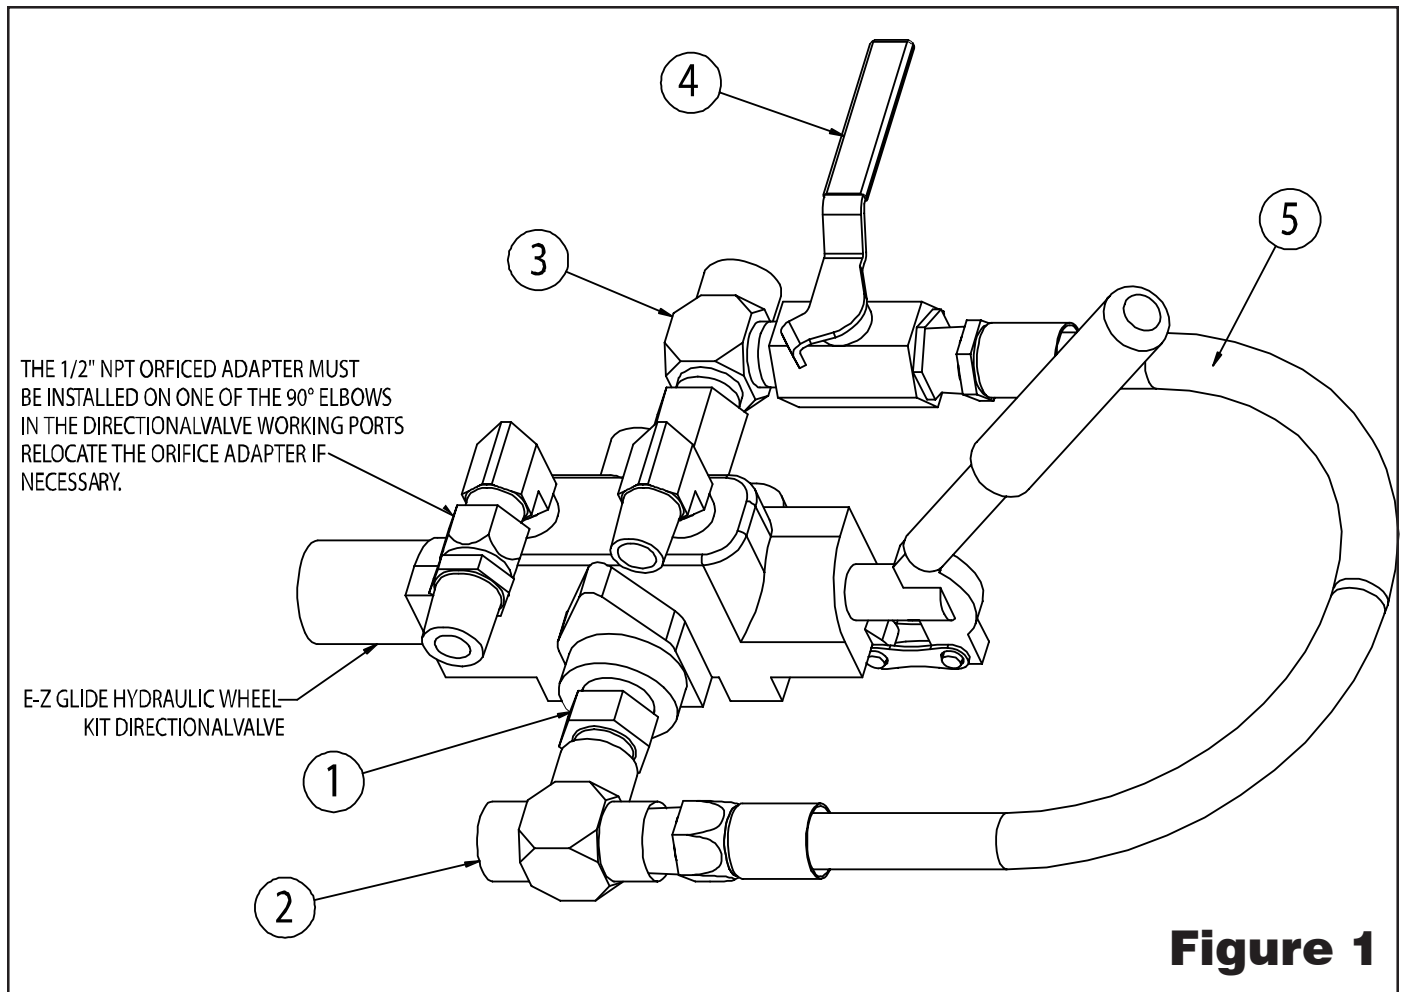

Figure 1
ASSEMBLY (REFER TO FIGURE 1):
5. Assemble the ½" NPT tee [2] to the ¾" NPT X ½" NPT straight adapter [1] as illustrated in Figure 1.
7. Assemble the shutoff valve [4] to the ½" NPT female run tee [3] as illustrated in Figure 1.
8. Assemble the hose [5] to the tee [2] and shutoff valve [4] as illustrated in Figure 1.